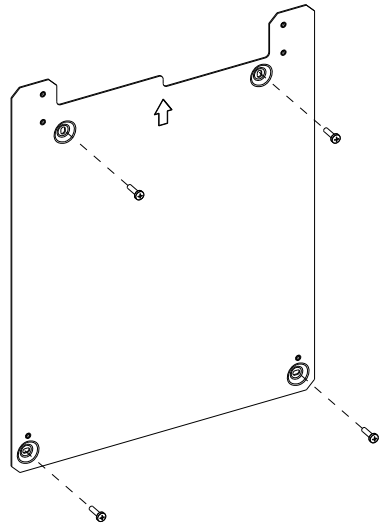

Fig. 2: Fixing the FC700 series panel mounting plate
- Hold the mounting plate up to the wall and mark on the wall a position for the upper mounting hole. Make sure that the plate is the right way up. See the arrow pointing upwards on the mounting plate. Refer to Fig. 2.